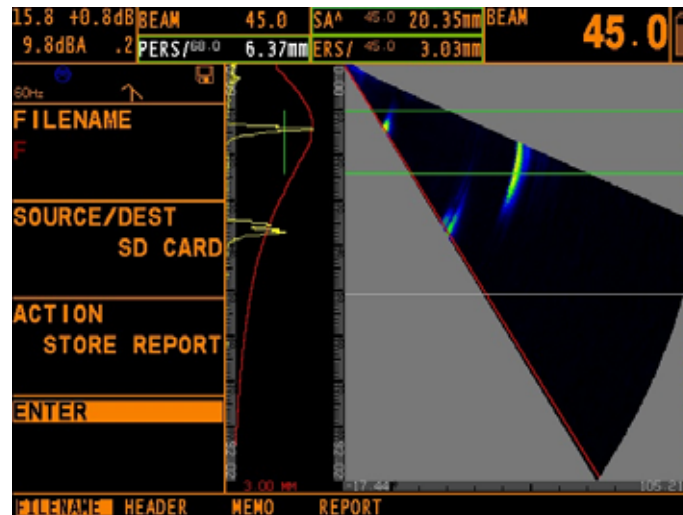

Figure 87: Incorrect Value from Wrong Echo
**ATTENTION!** The PERS value takes the maximum over all beam angles within the gate. Hence if an amplitude from a wrong echo (not the actual flaw echo) lies within the gate, the PERS value will be wrong as it is shown in Figure 87.